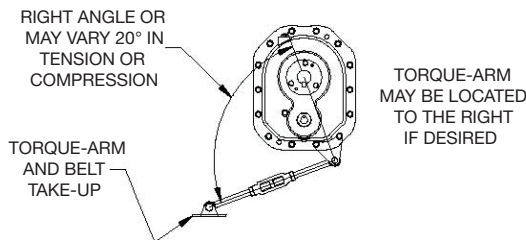

Figure 4 - Angle of Torque-Arm
5. Install Torque-Arm fulcrum on a rigid support so that the Torque-Arm will be approximately at right angles ($\pm 30^\circ$) to the center line through the driven shaft and the Torque-Arm anchor screw (Figure 4). Make sure that there is sufficient take-up in the turnbuckle for belt tension adjustment when using V-belt drive.